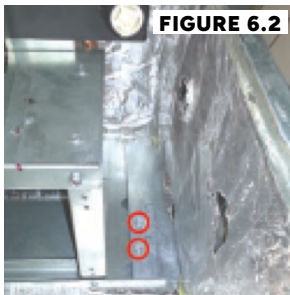

FIGURE 6.2
6.1.2. Using a 5/16" nut driver, remove the hex screws securing the heater/AC coil assembly to the slide brackets. The slide brackets are located on the left and right sides of the assembly. (Two screws per side – Fig 6.2)